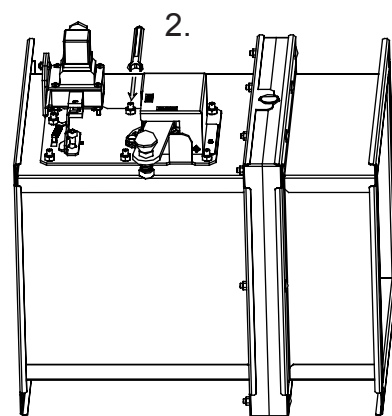

Fig. 13 Remove the inspection lid with wrench
2. Unscrew 6 screws using wrench. (Fig. 13)